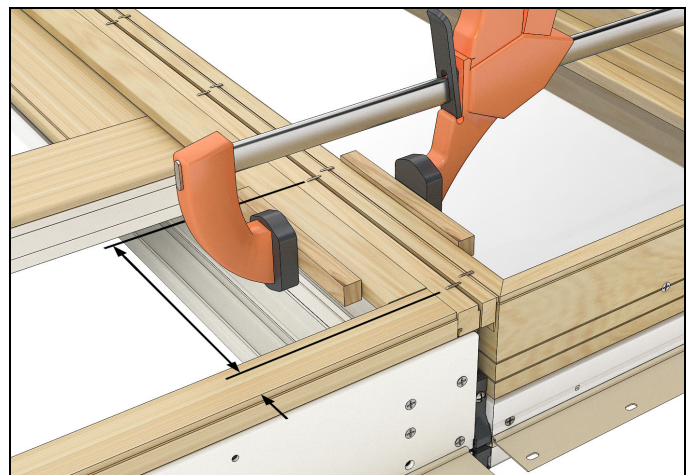

Figure 13
13. Connect the frames to the mull support with two rows of alternatively spaced staples a maximum of 1" from end and 7" on center. See Figure 13.